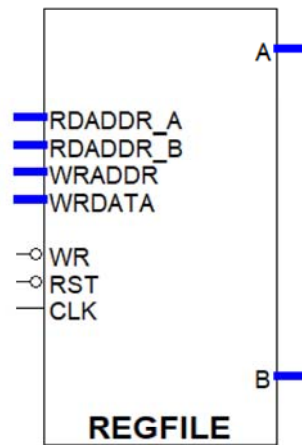
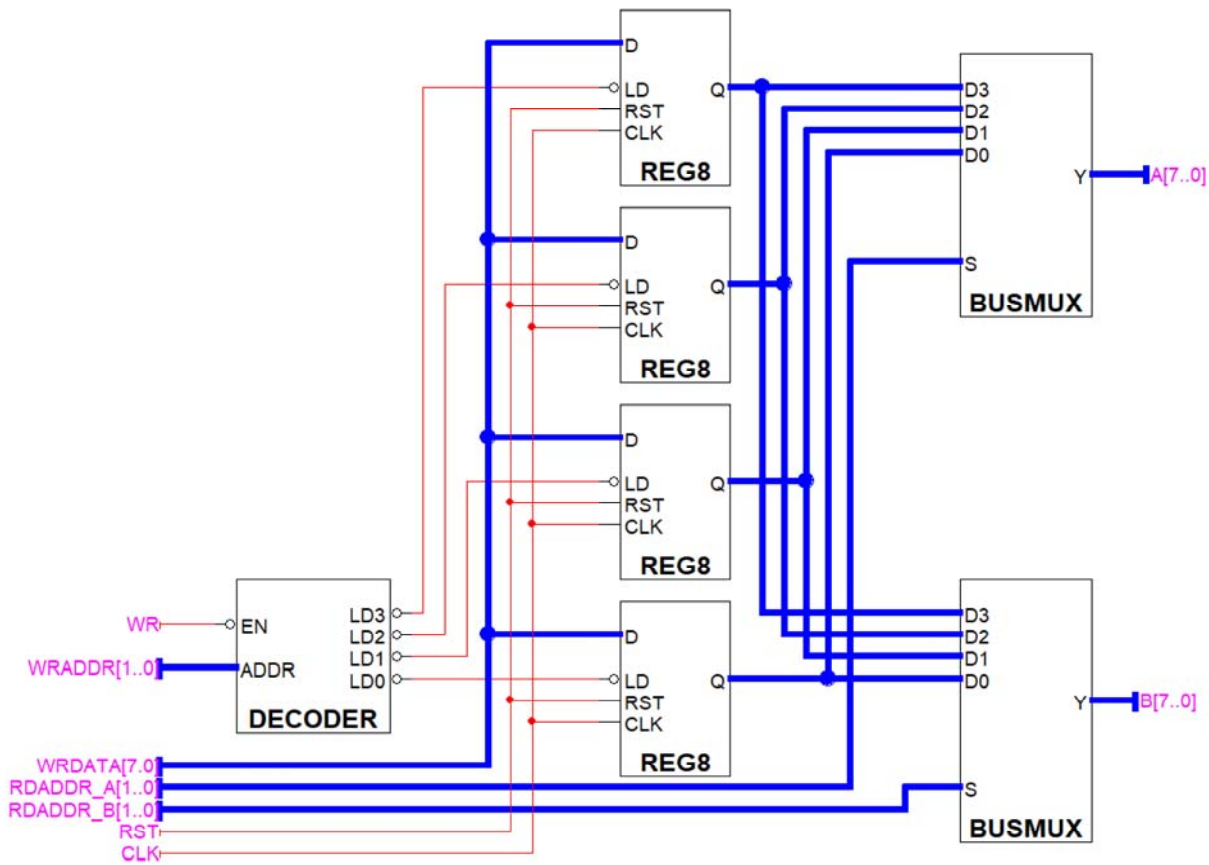

Figure 2: Functional Symbol for a 2-read/1-write register file
Figure 3: Internal Circuit of a 2-read/1-write Register File
Standard register files are **2-read/1-write** register files and thus have three address bus inputs: two specifying the read registers and one specifying the write register. Figure 2 shows the functional level symbol for a register file and Figure 3 shows the internal circuit.
The internal circuit of Figure 3 shows four byte-sized registers sharing a common connection to the clock, to reset, and to the write data. These registers hold data for the central processing unit. Read behavior is provided by two output multiplexers. Each read-port multiplexer has its selection bits attached to one of the read addresses. Similarly, Figure 3 shows an address decoder used to select which register should write data based on the write address. Not every central processing unit instruction will write calculated values back into the register file. Thus, the register file has a **write control signal** called **WR**. This signal is connected to the address decoder. The diagram shows this control signal as **active-low**. Thus, the behavior of the decoder can be summarized as:
Standard digital logic components are interconnected to form the register file. This interconnection could be done schematically or described using a hardware description language. The input and output ports of the register file are shown in Figure 2 and eight internal signals can also be seen in Figure 3. These internal signals are listed in Table 1.
Table 1: Internal Signals Visible in Figure 3
1. **Implement** the register file in Figure 3 using one of the three strategies.